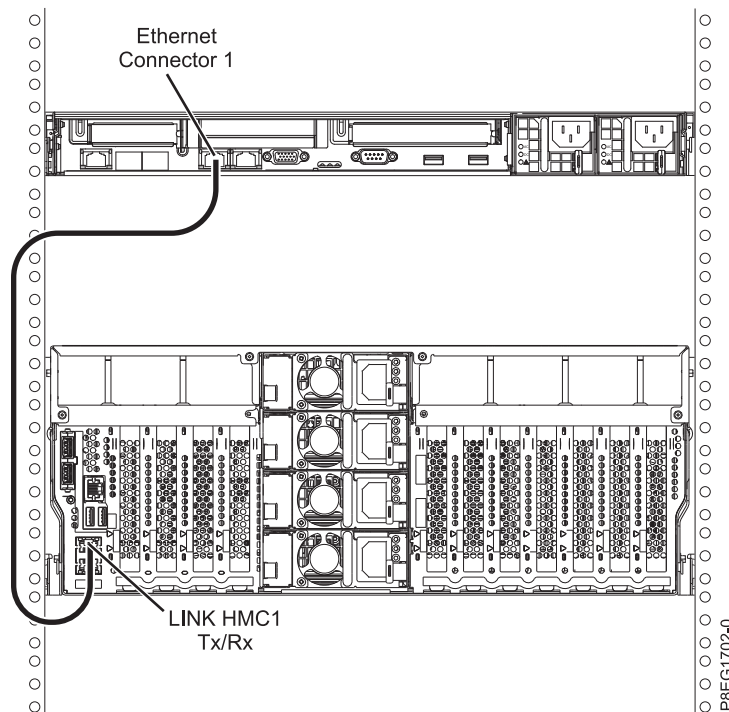

Figure 20. Attaching the HMC to the managed system
1. If you want to directly attach your HMC to the managed system, connect **Ethernet Connector 1** on the HMC to the **HMC1** port on the managed system. See Figure 20.